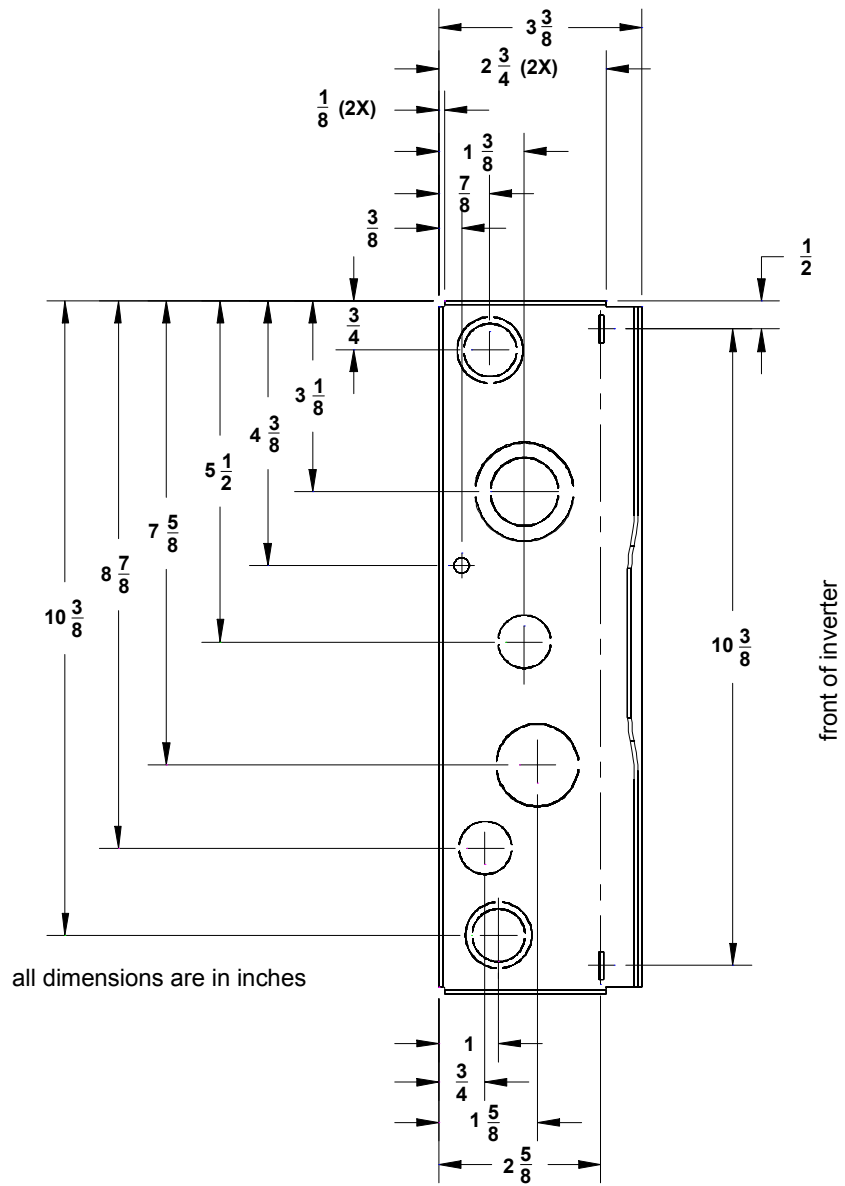

Figure 2-9 Bottom hole conduit locations (bottom view)
Conduit holes	Pre-plan the wire and conduit runs. Knockouts for conduit holes are located on the bottom of the unit. See Figure 2-9 .
1. Install the DC conduit from the PV arrays to the bottom of the Sun Tie XR, through one of the knockout holes, as shown in Figure 2-9. Metal conduit is highly recommended.